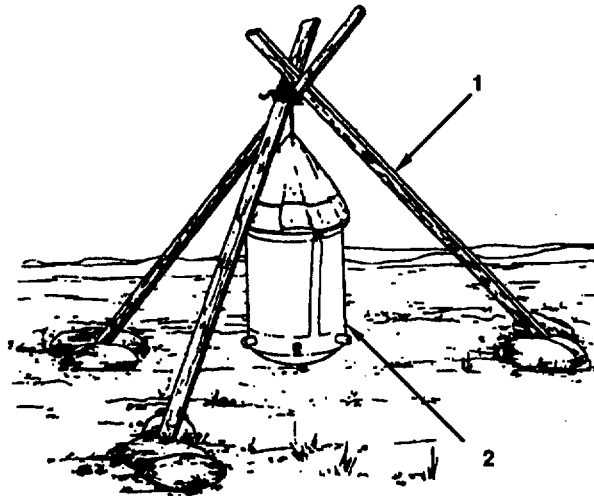

Figure 2-28. Tripod and Water Storage Drinking Bag.
- bb. Using locally available materials, construct tripod supports (Figure 2-28, 1) on which to hang drinking water storage bag (2). Hang drinking water storage bag (2) on tripod (1).